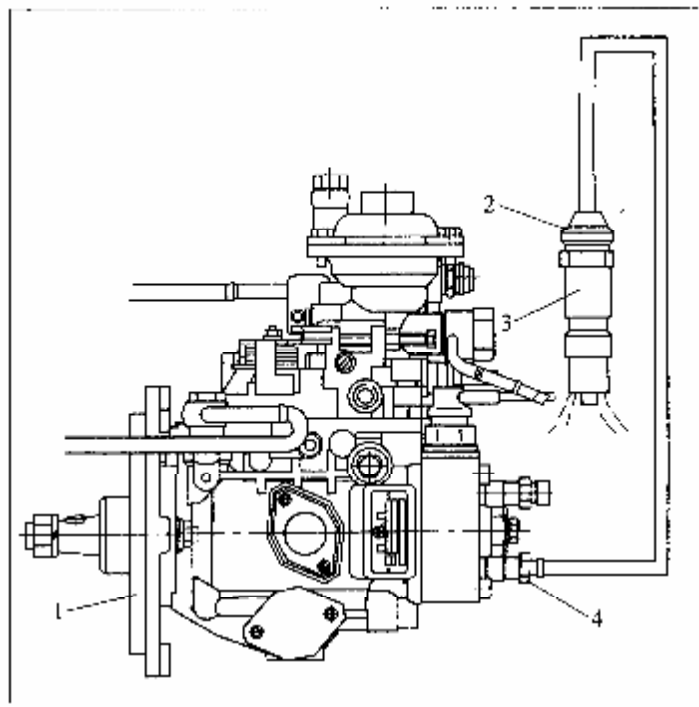

Fig.4-6 Bleed high-pressure fuel pipe
(2)Bleed high-pressure fuel pipe (fuel injection pump to oil injection pipe): loosen pipe nut on injector end (Fig.4-6). Crank with starter the crankshaft till there is no bubble in drained fuel. Retighten pipe nut.